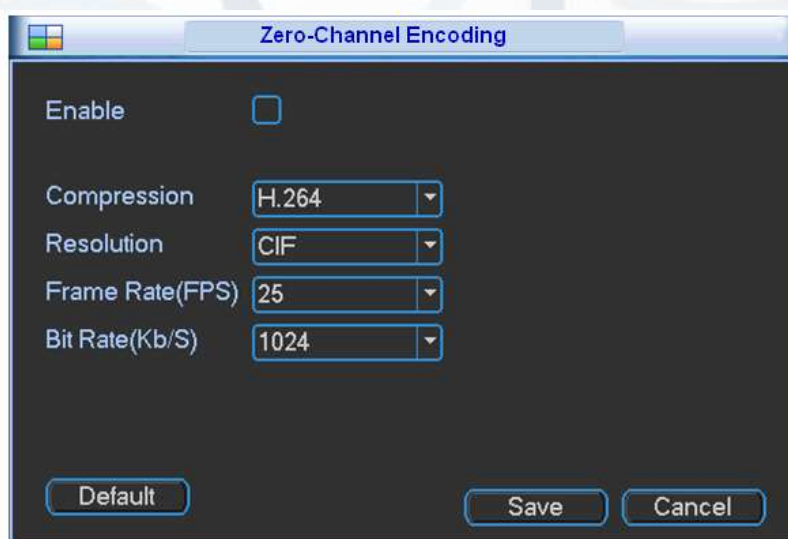

Figure 5-14
- **Zero-Channel Encoding:** Click Setup button, you can go to the following interface shown in Figure 5-14. Here you can enable and set the zero-channel encoding function so that you can view several video sources in one channel.